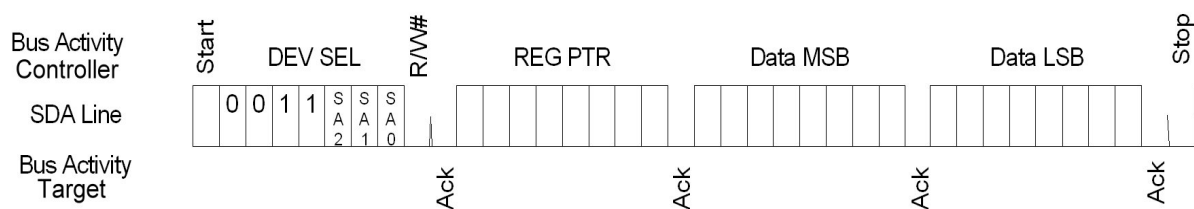

Figure 10 — TS Register Write Operation
Writing to the TSE2002av Temperature Register Set is accomplished through a modified block write operation for two (2) data bytes. To maintain I2C compatibility, the 16 bit register is accessed through a pointer register, requiring the write sequence to include an address pointer in addition to the Target address. This indicates the storage location for the next two bytes received. Figure 10 shows an entire write transaction on the bus.
The register set address are shown in Table 4. These values are used in the I²C operations as the “REG_PTR” in Figures 10 through 13.